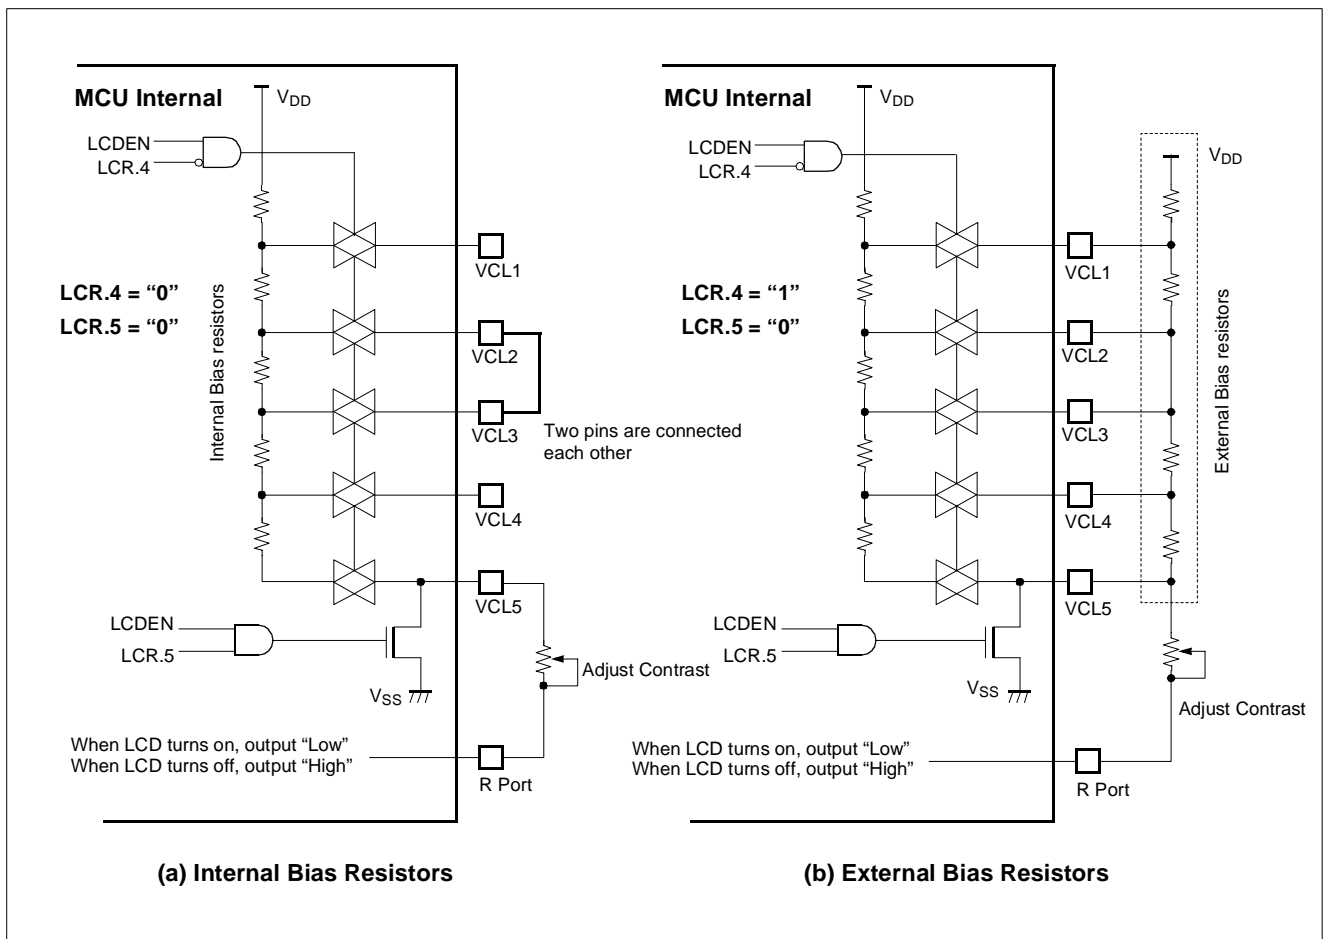

Figure 15-3 Application Example of Adjusting the Contrast
Bit 5 of LCR switches Transistor supplying voltage to serially connected Bias resistor. If it is '1', it turns on, and if it is '0', it turns off. When the system needs adjusting the contrast of LCD, the bit 5 of LCR should be clear to "0" always. Then power is supplied through the external resistor as shown in Figure 15-3 .
**Note:** Since the GMS81C3004 using 1/8 duty, so recommend to use 1/4 Bias. To use 1/4 Bias, VCL 2 pin and VCL 3 pin should be shorted externally as shown in Figure 15-3 (a). Furthermore, in case that user wants to use the specific voltage instead of voltage of internal Bias resistor, external Bias resistor can be used as shown in Figure 15-3 (b). To use external Bias resistor, Bit 4 and Bit 5 of LCR should be set.